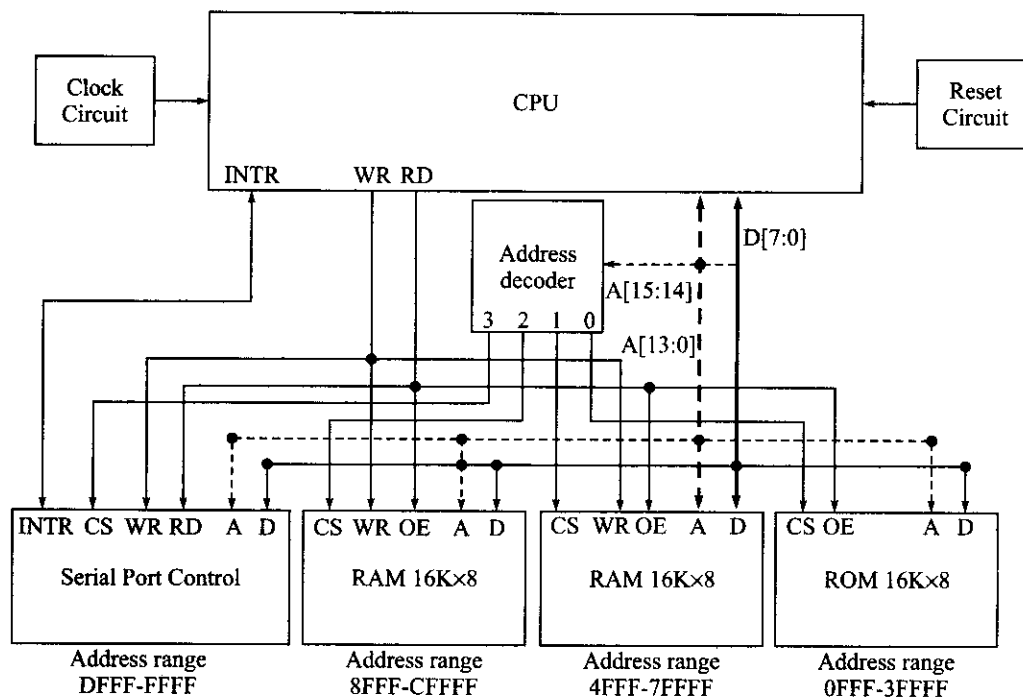

Fig. 16.8 Basic architecture of an 8-bit computer
We shall conclude this chapter by revisiting *computer architecture* introduced in Section 1.6, carrying forward the discussions of this chapter. Figure 16.8 represents a basic 8-bit computer. The 8-bit data bus is bidirectional in nature i.e. CPU is capable of both reading and writing from/to a location defined by 16-bit address which is a total of $2^{16} = 64K$ locations. Individual RAM and ROM are of size 16K and this requires 14 bits for addressing. The two MSBs are sent to a 2 to 4 address decoder which generates four Chip Select (CS)